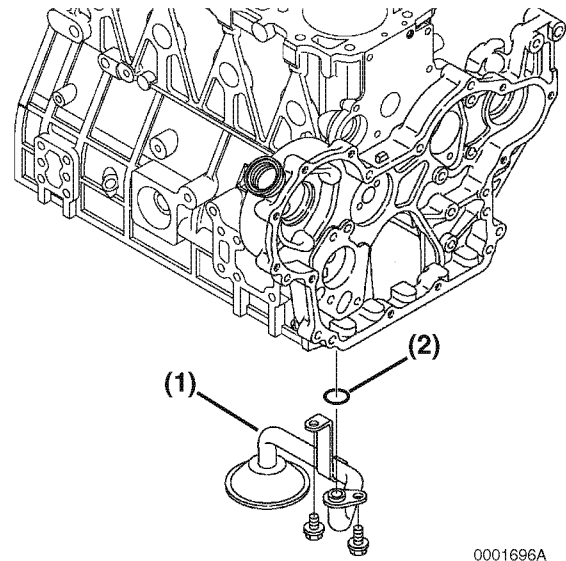

Figure 6-151
1. Reinstall the oil pickup tube (Figure 6-151, (1)) using a new O-ring (Figure 6-151, (2)).